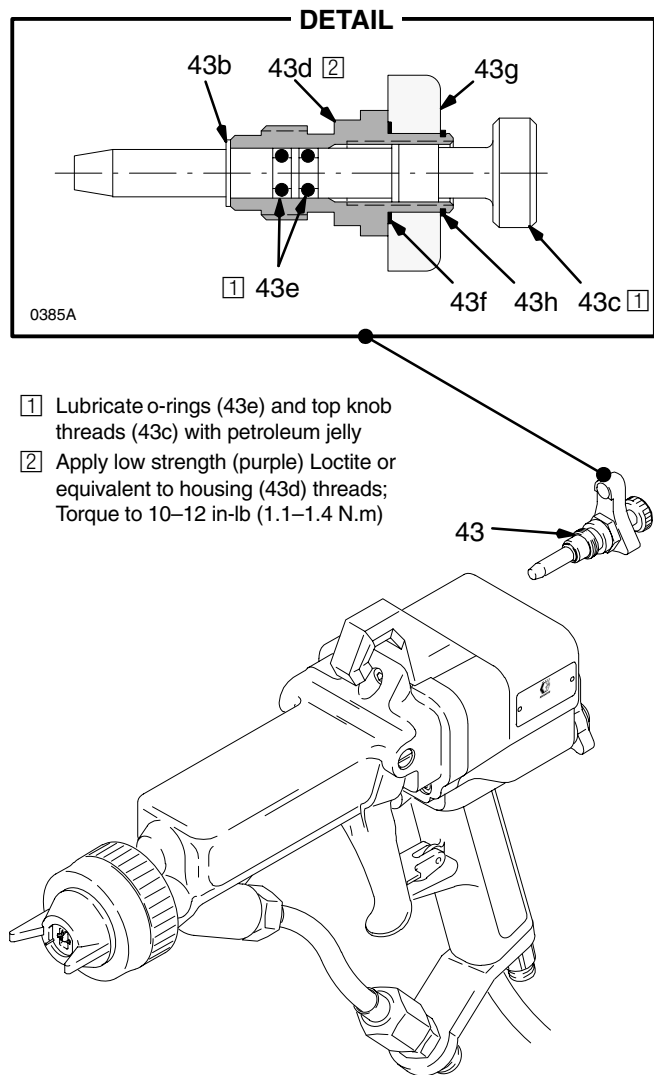

Fig. 19
2. Remove the retaining ring (43h). See Fig. 19.
3. Slide the KV HI-LO lever (43g) up, place a wrench on the flats of the valve housing and remove the air control valve assembly (43).
7. Reassemble the air control valve (43). Lubricate the o-rings (43e) and the adjustment knob threads (43c) with petroleum jelly. Install the retaining ring (43h).
8. Apply low strength (*purple*) Loctite or equivalent thread sealant to the threads of the valve housing (43d) and install the air control valve assembly (43) into the gun handle.